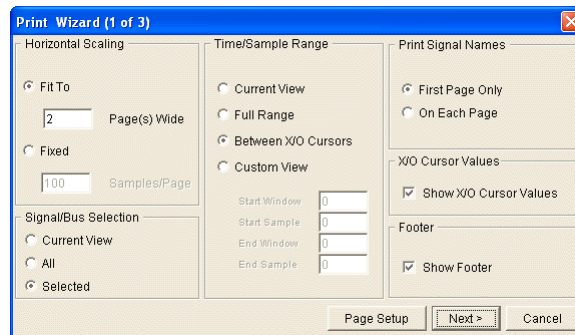
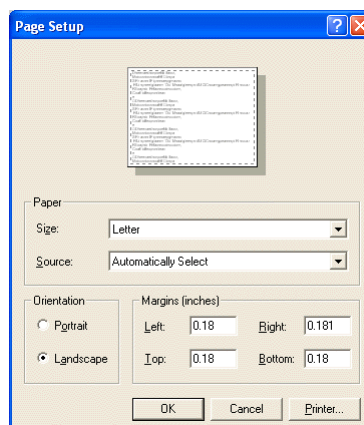

Figure 4-6: Print Wizard (1 of 3)
Figure 4-12: Page Setup Window
1. (1 of 3) is the Print options and settings window (Figure 4-6)
The first Print Wizard window (shown in Figure 4-6) is used to set up various waveform printing options. The following sections describe these waveform printing options in more detail.
The buttons at the bottom of the Print Wizard (1 of 3) window (Figure 4-6, page 4-7) are defined as follows:
- *Page Setup*: Opens the page setup window (refer to Figure 4-12, page 4-11)
The Page Setup window (shown in Figure 4-12) can be invoked either from the Print Wizard (1 of 3) window (Figure 4-6, page 4-7) or by using the **File** → **Page Setup** menu option.